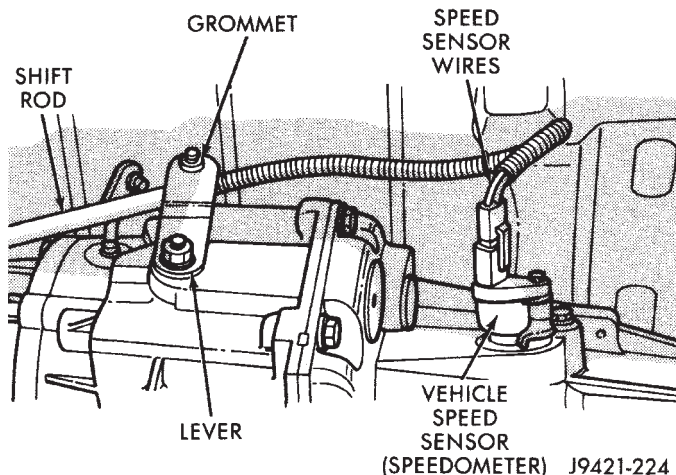

Fig. 10 Shift Rod And Speed Sensor Wire Attachment
- (1) Raise vehicle.
- (2) If adapter is to be removed for disassembly and overhaul, remove drain plug and drain lubricant from adapter.
- (3) Disconnect vehicle speed sensor wires at sensor (Fig. 10).